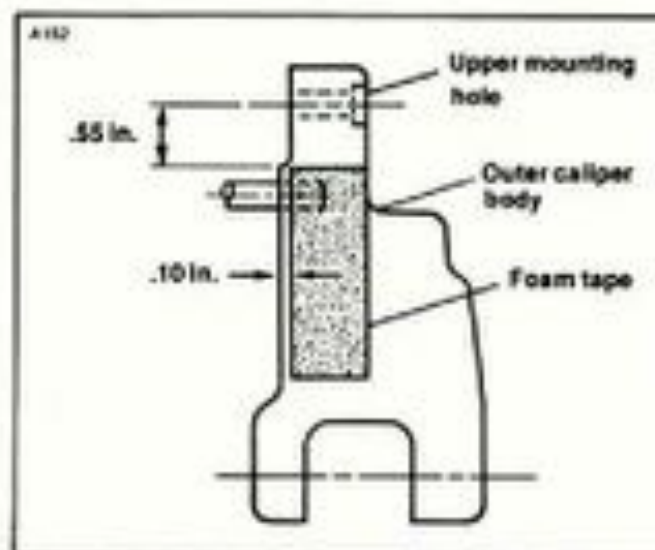

Figure 2-56. Foam Tape Installation — FX Models
## FRONT BRAKE CALIPER - FX 1983 AND EARLIER (Figure 2-56, 2-57)
- See figure 2-56. Remove the paper backing from the foam and apply to the front of the outer caliper body. Do not remove the protective Mylar from the foam. Apply a thin coating of Loctite ANTI-SEIZE to the mounting screw and reinstall the caliper using a new locknut. Tighten the screw to 80 to 90 in-lbs torque.